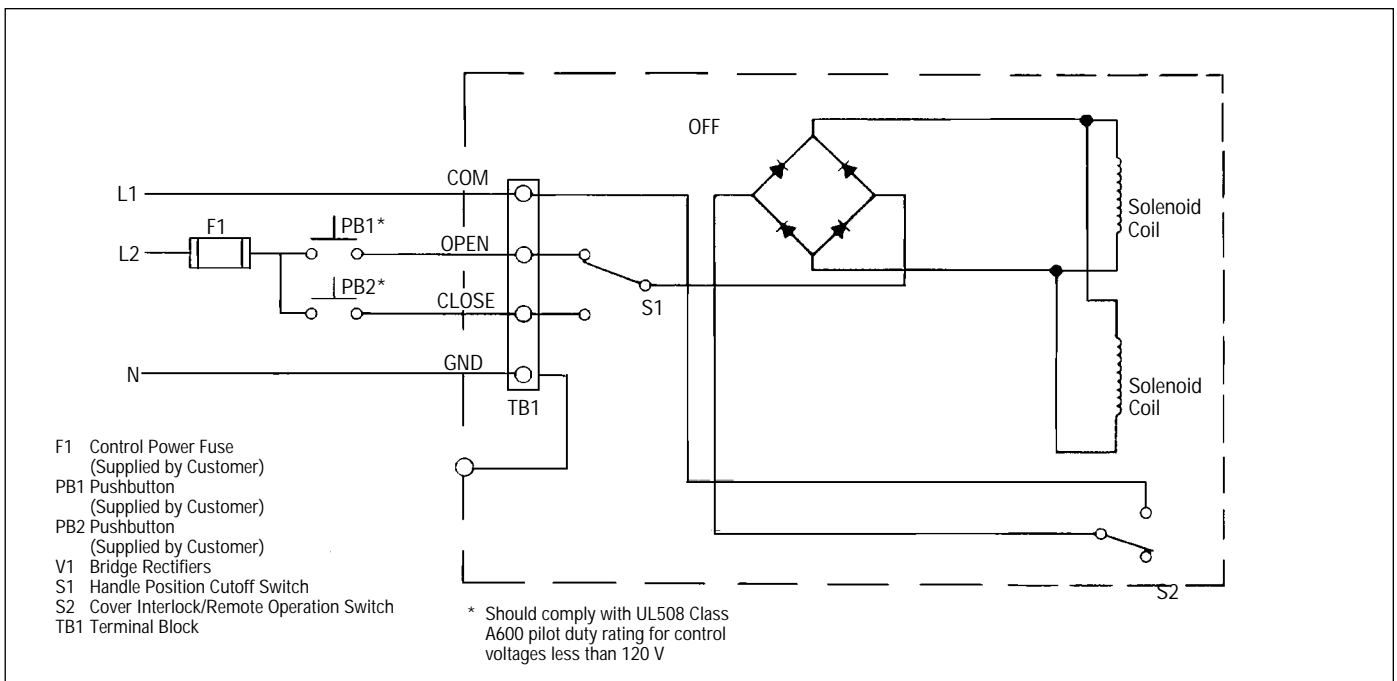

Figure 1-4 Electrical Operator Connection and Schematic Diagram
Table 1.1 Electrical (Solenoid) Operator Catalog Numbers Electrical Rating Data ① ② ③ ④ ⑤ ⑥ (See Figure 1-4 for Additional Data)
The electrical operator includes the dual-solenoid, a full-wave bridge rectifier, and interlock and control switches. An externally mounted terminal block is provided for control connections. The following paragraphs describe the electrical sequence of operation. Figure 1-4 shows the connection and schematic diagram for the electrical operator.
2-9. Connect the control wires to the terminal block (TB1). See Figure 1-4.
2-10. Connect control wires to remote control devices. See Figure 1-4.
When the assembly is mounted on an insulated surface, connect a ground conductor (green) as shown in Figure 1-4 to ground the electrical operator frame. The ground connection may be omitted where the circuit breaker is mounted on a grounded metal surface.